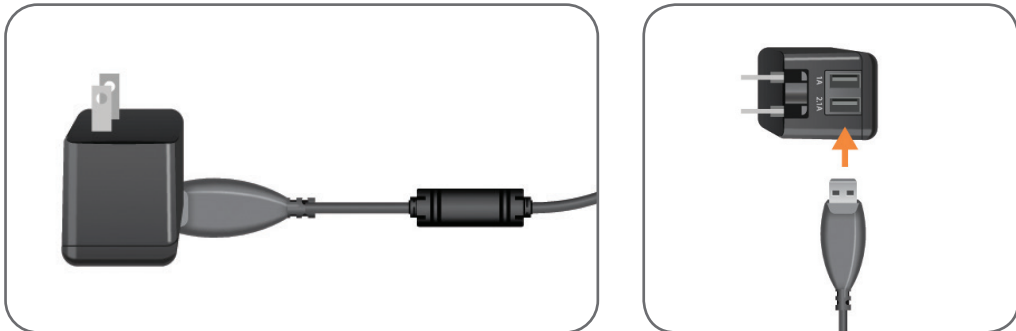

Figure 6-1: Inserting USB Charging Cable into AC Adapter
2. Insert the USB end on the charging cable into any of the two available USB ports on the AC adapter. For individuals using both the right and left Thigh Cuff, connect an additional USB charging cable to the AC adapter. See Figure 6-1.